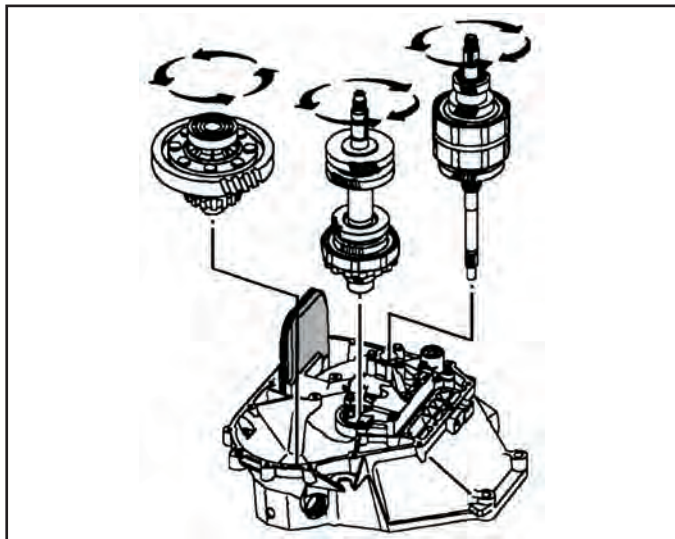

Figure 190
5. Install the input shaft, output shaft and differential. Grasp the input shaft and output shaft and mesh the gears. Have an assistant mesh the differential ring gear to the output shaft. Lower all three components at the same time. Apply petroleum jelly on the output shaft bearing to aid in the installation (See Figure 190).